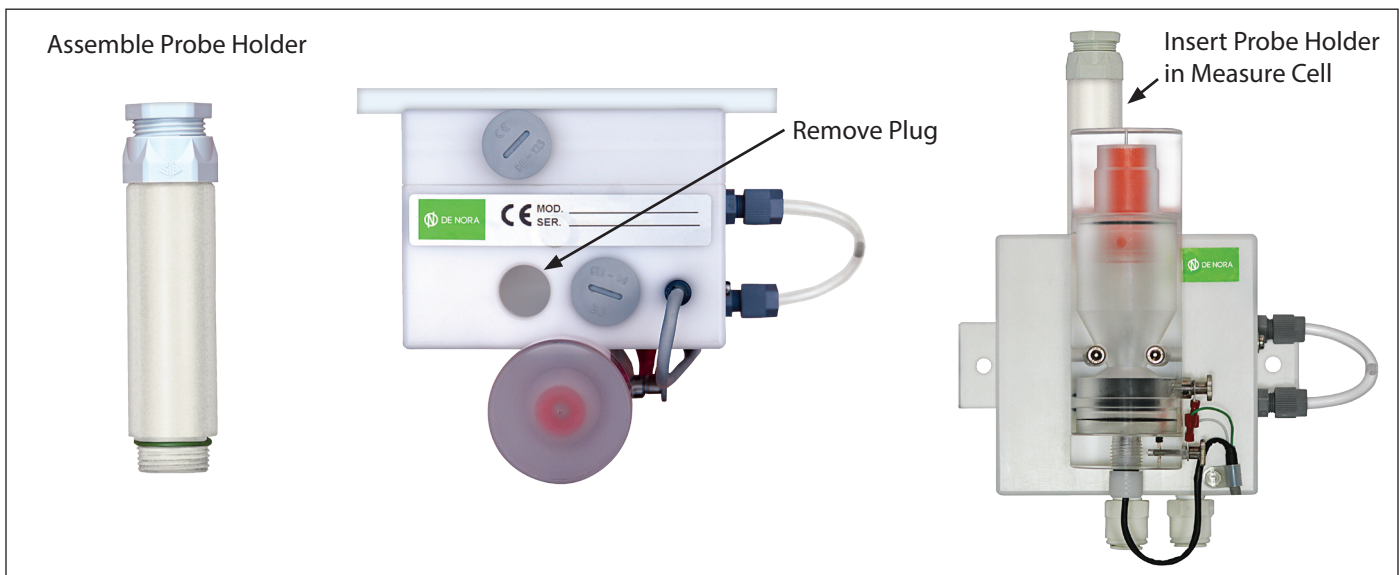

Figure 3 – Optional 12 mm Probe Installation
2.3.1 Optional 12 mm probe holder installation (See Figure 3)